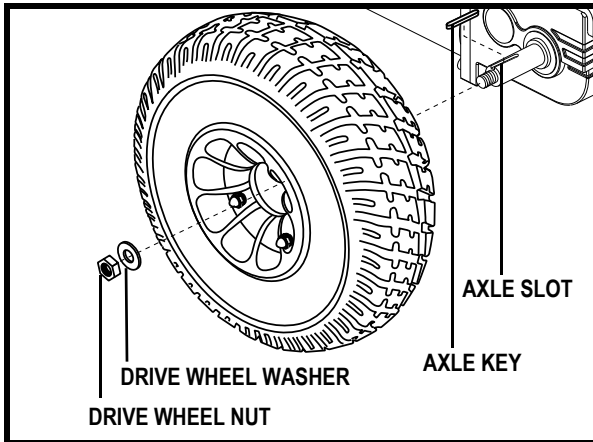

Figure 27. Quantum 1103 Ultra Drive Wheel
4. Remove the drive wheel nut and washer from the axle. See figure 27.